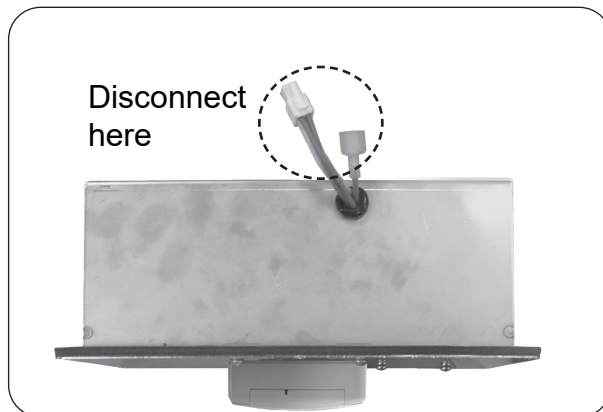

Fig. 39-2 Disconnect wire harness and groundwire (and power cord)
3. Disconnect the power supply cord. Then disconnect the wire harness and ground wire (see Fig. 39-2). Completely remove the box for ease of fuse replacement.